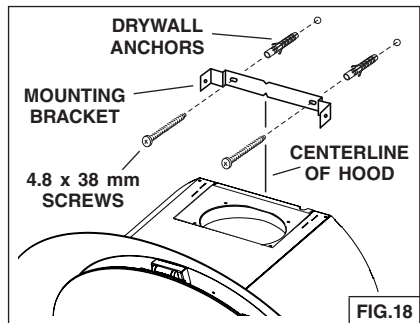

FIG.18
17. Center mounting bracket directly over range hood. Fig. 18.
18. Secure bracket to wall using (2) 4.8 x 38 mm mounting screws and drywall anchors (provided).